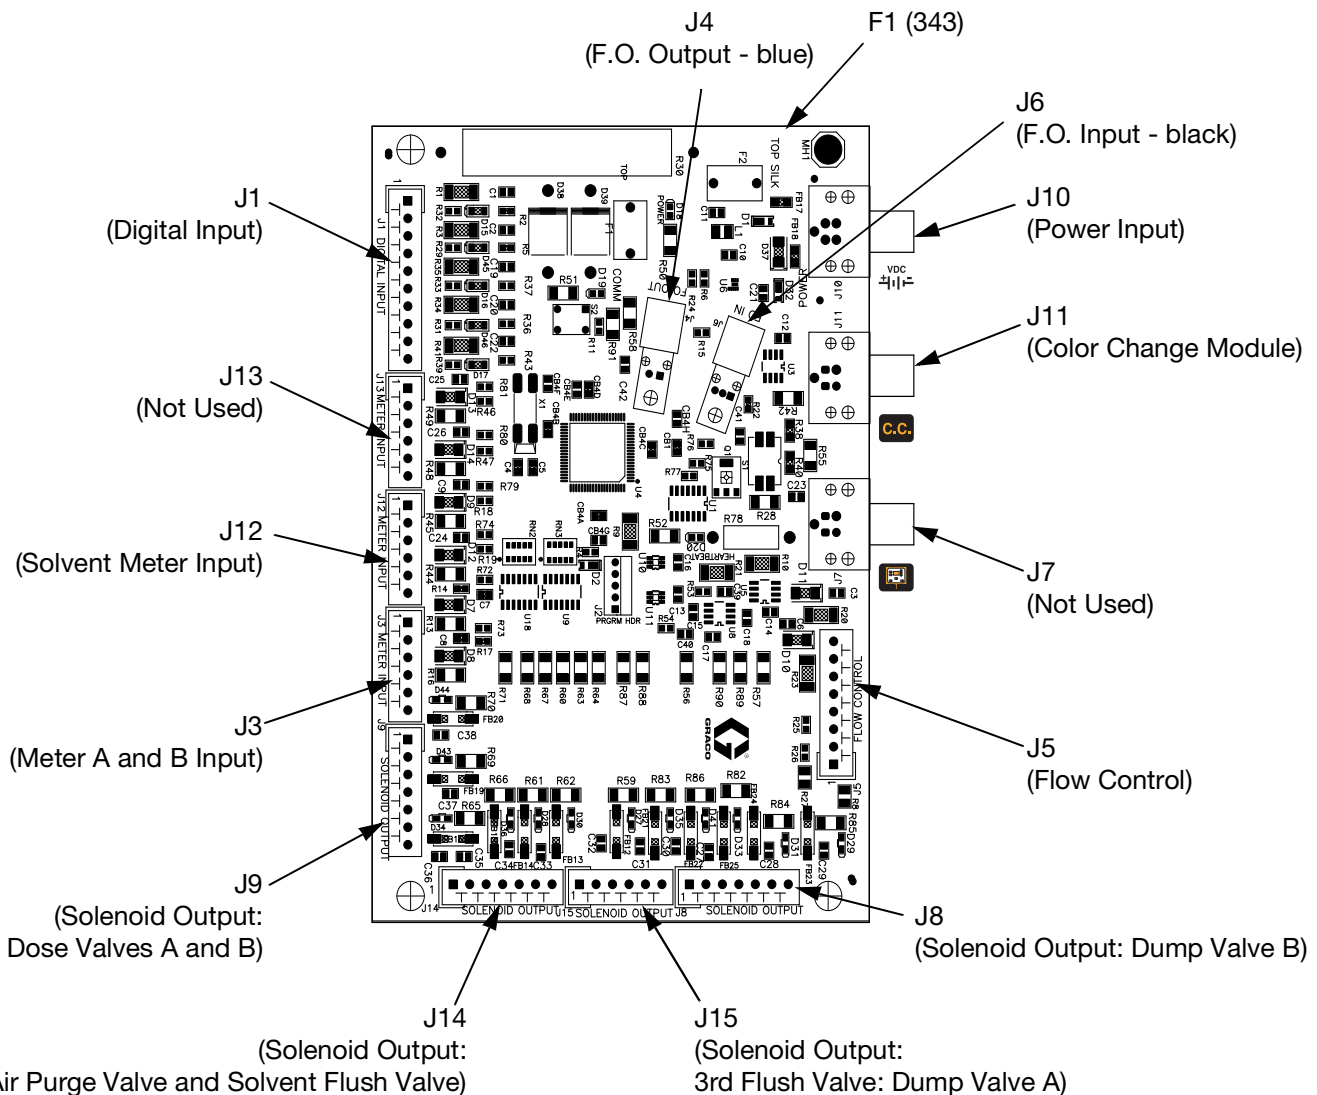

FIG. 21: 255765 Fluid Station Control Board
2. Disconnect fiber optic wires (J4, J6) and all cables (J1, J3, J5, J7, J8, J9, J12, J13, J14, J15) from control board (302). FIG. 21.
4. Install new control board (302) with 4 screws (303).
5. Connect cables to control board (302). FIG. 21. Insert fiber optic cable connectors (J4, J6) into board connectors (E), matching blue with blue, black with black, and hand-tighten connectors. Do not pinch or kink the fiber optic cables; the cables require a 2 in. (51 mm) bend radius.
6. Replace the cover (322).
2. Disconnect 2 solenoid wires from control board (302). See FIG. 21 and **System Electrical Schematic**, page 35.